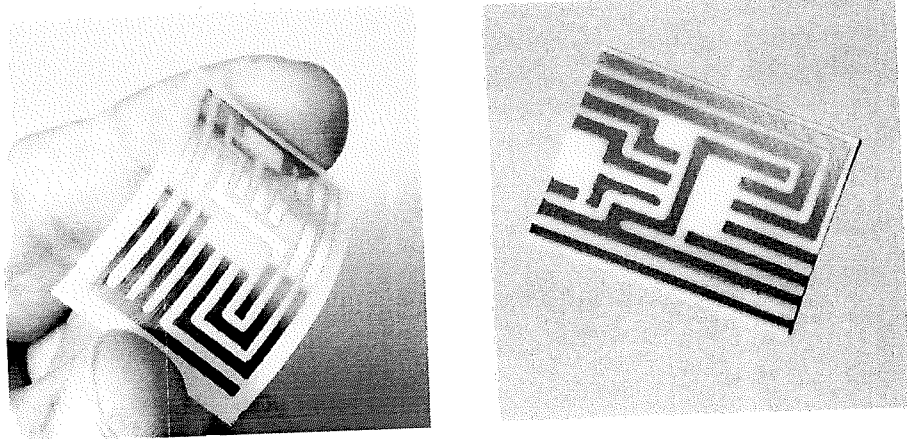

Figure 2: Copper circuit board
5. One of the corrosion failure in electronic device is degradation of printed circuit board (PCB). The main material for PCB is Copper (Cu). Figure 2 shows example of PCB. Based on your knowledge in corrosion measurement, design a simple corrosion testing/cell set up for the following: